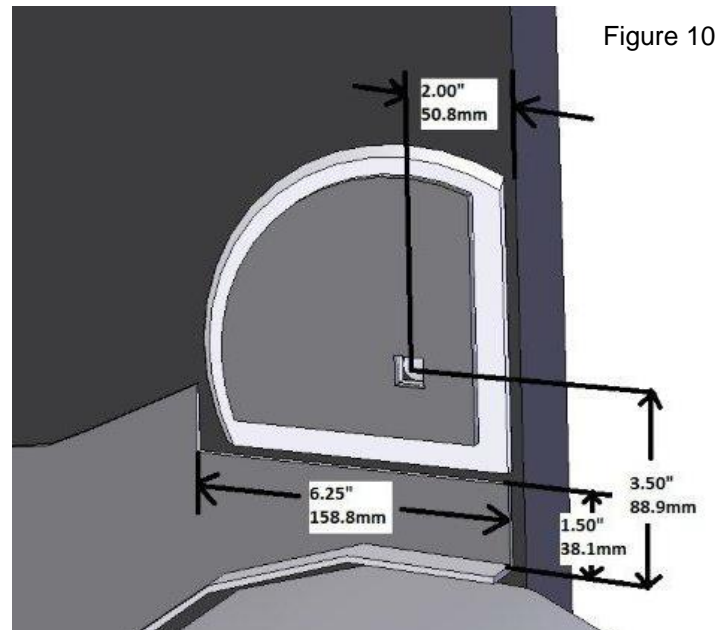

Figure 10
5. The mounting hole will be 3/4" (19mm) in diameter. The disc will need to be placed on the baler to line up the location of 3.5" (89mm) up from bottom, 2" (51mm) from the back of the chamber to the center of the bolt. (Figure 10)